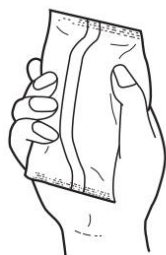

Figure 1.
- (1) Remove the tubing from the case's lid.
- (2) Turn the lid counterclockwise to open it.
- (3) Remove an old filter pack.
- (4) Open a new filter pack and follow the steps below, referring to the figures, to put it into the case.
- \* Shape the pack into cylinders (Figure 1).